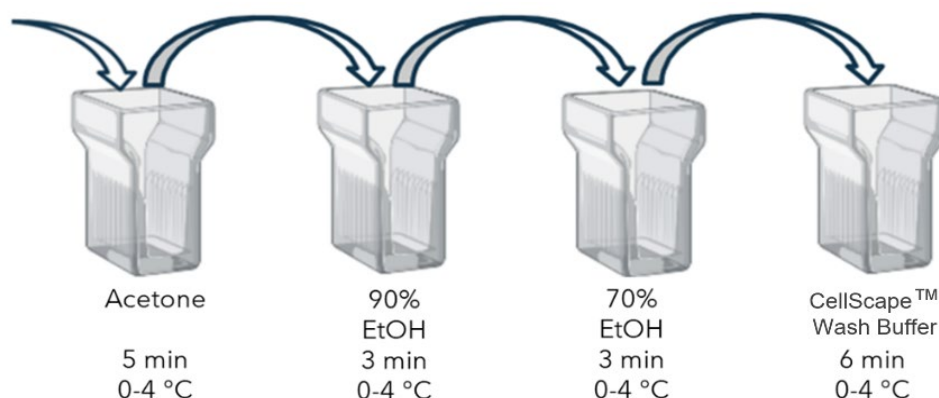

Figure 1. Illustration of tissue fixation on coverslip using Coplin staining jars.
- b. Place the section onto a standard microscope slide in the area indicated by Figure 1.
Figure 1. Placement of cryo-sectioned tissue onto an example frosted glass slide for compatibility with overlaid CellScape WSIC. The CellScape viewing window is indicated by the green dashed line. Tissue is ideally centered on the glass slide and does not encroach into the adhesive area on the border.
- h. To facilitate slide adhesion to the WSIC coverslip, use a lint-free wipe to dry the borders of the slide where the adhesive of the WSIC coverslip will contact the slide (see Figure 1). Take care not to touch the tissue section and do not let the tissue dry out as tissue adherence may become compromised.